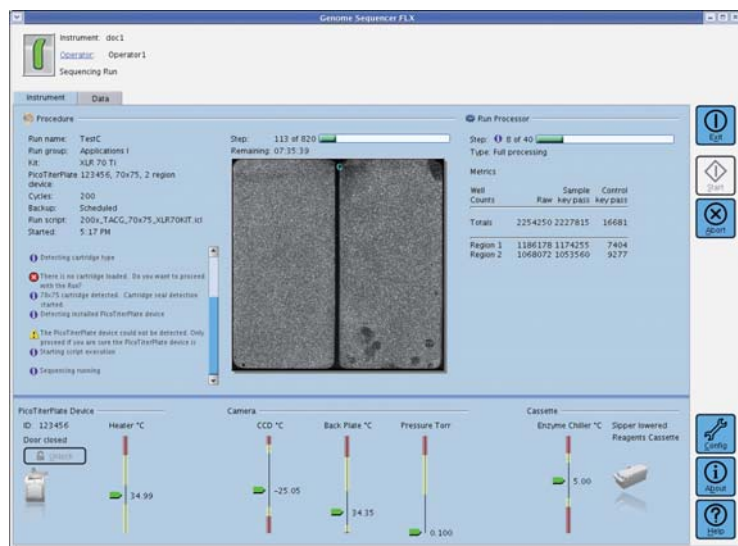

Figure 31: The Instrument tab of the GS Sequencer application main window during a sequencing Run
- ▶ The Operator can monitor the progress of a sequencing Run by viewing the Instrument status and the data images as they are being captured by the camera: Thumbnail images will appear under the progress bar in the Instrument tab during the Run (Figure 31).
- ▶ There is an *Abort* button available in the Global Action area of the GS Sequencer main window (Figure 31), which can be clicked if a problem occurs during the Run. The Abort Run dialog box will ask you to verify that you want to stop the Run; if you confirm, the Run will be immediately terminated. There is no procedure for pausing and resuming a Run. If a Run is aborted, follow the abort with a Pre-wash before proceeding with another sequencing Run.